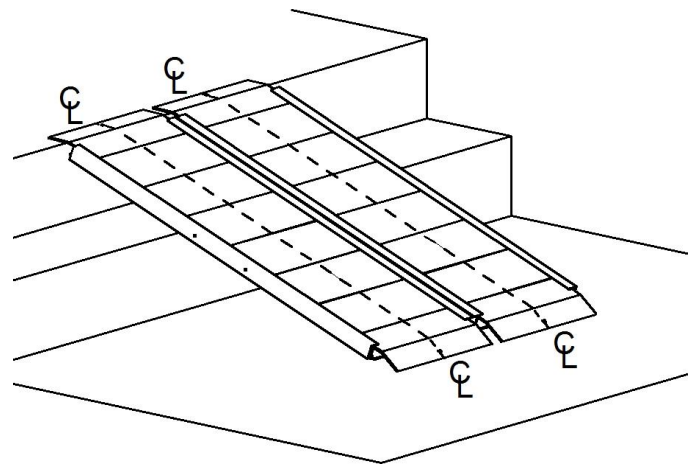
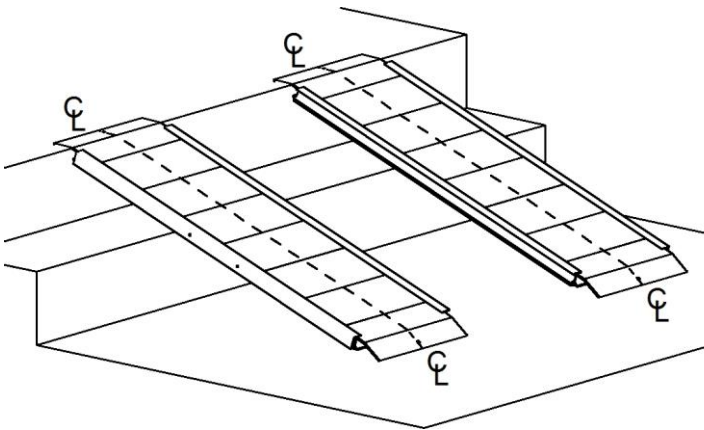
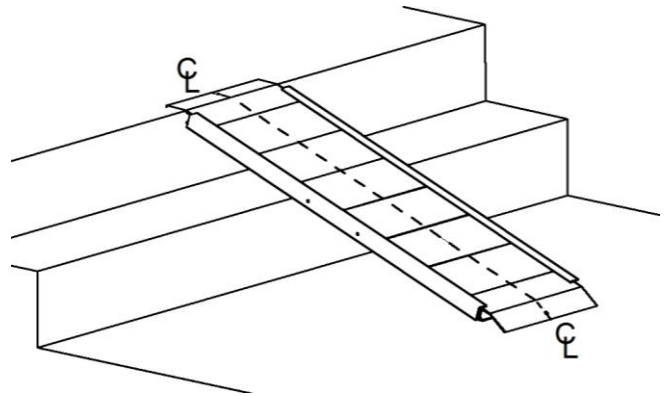

FIG. 1
FIG. 2
FIG. 3
- Unfold ramp and position securely on support surfaces (FIG.1).
- Ramps can be separated to be used independently or singly. Ramps are shown combined (FIG. 1), dual use (FIG. 2) and single (FIG 3).
- ⚠ Always enter and exit ramp along its centerline (Ⓛ) (FIG. 1).